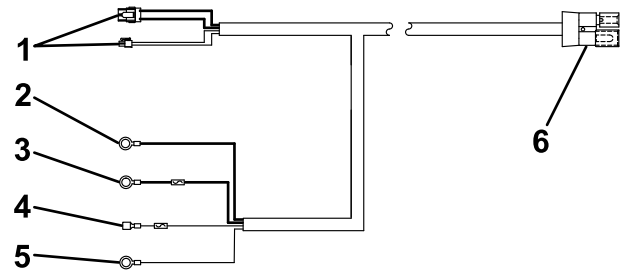

Figure 3
1. Secure the spreader end of the vehicle wire harness (Figure 3) to the center of the rear vehicle bumper with a cable tie.
4. Connect the black ring connector in the engine compartment to the negative (-) battery terminal (Figure 3).
5. Connect the red ring connector in the engine compartment to the positive (+) battery terminal (Figure 3).
6. Connect the spade connector to an ignition switch power source on the vehicle (Figure 3).
7. Connect the ground cable to the negative (-) battery post or chassis ground (Figure 3).